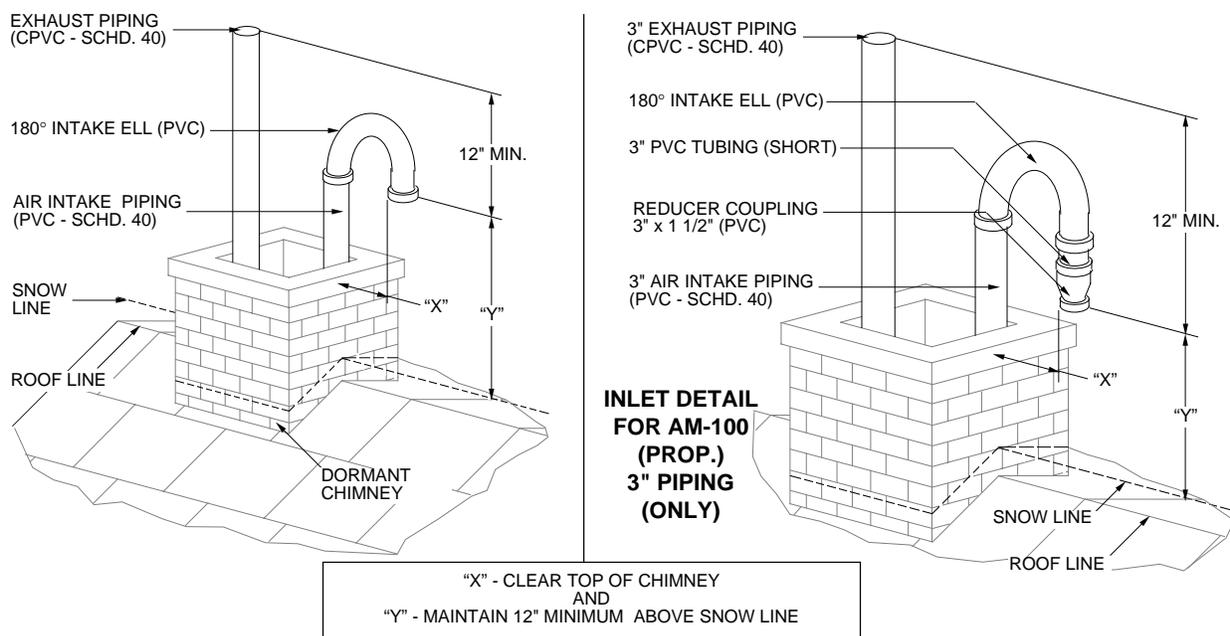

FIGURE 4.2
2. Air intake pipe termination must be as shown in Figure 4.2, with a 180° ell installed on air intake pipe.
For 3" piping on Propane AM-100, cement a reducer coupling and short tubing transition to the inlet termination only, see Figure 4.2.